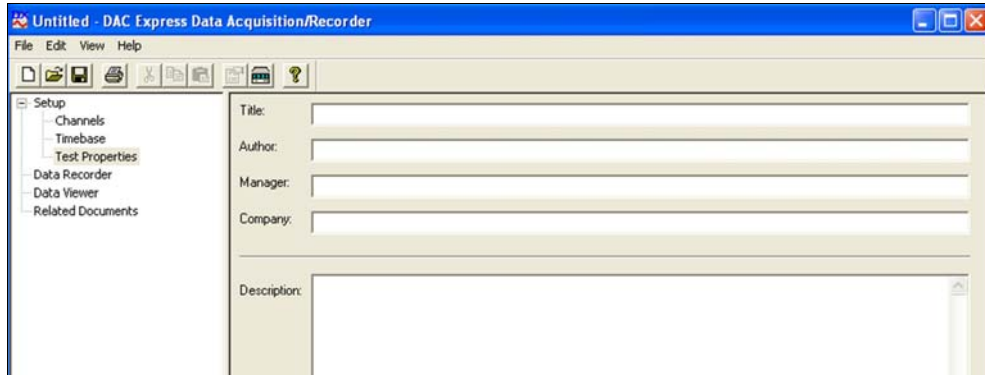

FIGURE 3-8: TEST PROPERTIES DIALOG BOX
- b) Enter any data required including title, company, author, test description (see Figure 3-8).